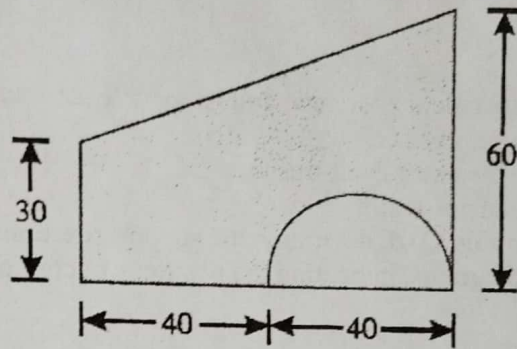

Fig Q2b
- (b) A semi-circular area is removed from a trapezium as shown in Fig. Q2b. Determine the centroid of the remaining area. All dimensions are in mm.